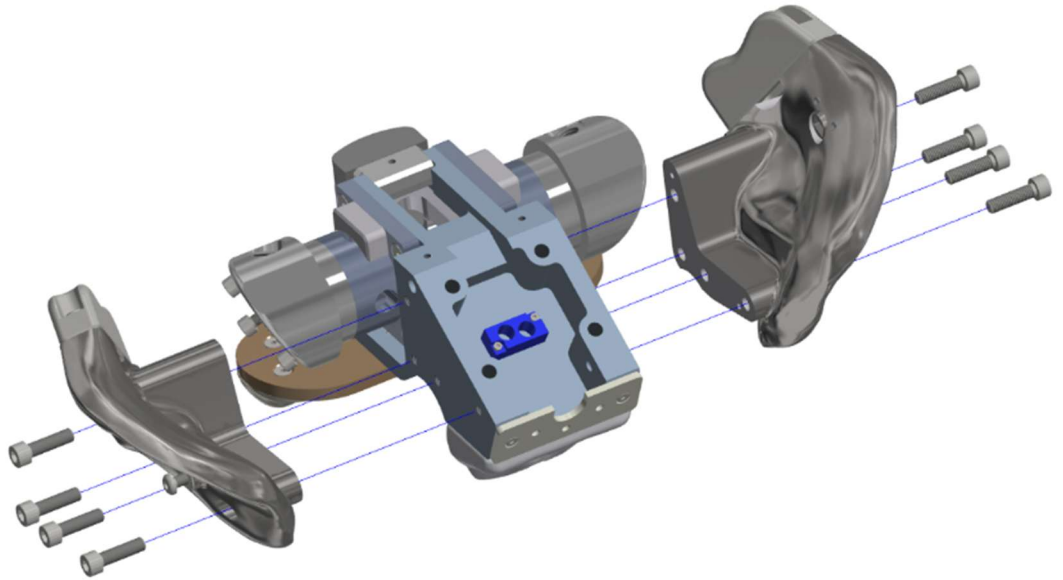

Figure 8-42. Attach screws through pelvis iliac wings into center pelvic bone
- 8.3.13 Attach the Left (474-4540-1-A) and Right (474-4540-2-A) Pelvis Wings to the left and right sides of the Center Pelvic Bone (474-4541) using four M6 X 1 X 22 LG. SHCS on each side (Figure 8-42).